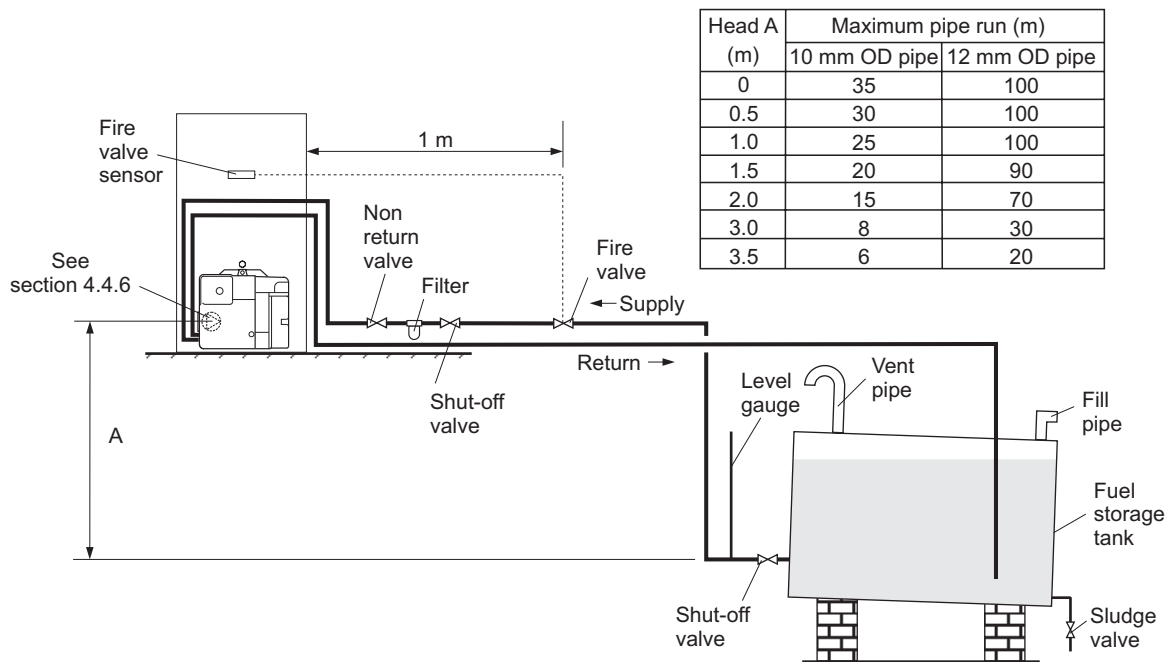

Fig. 3 - Two pipe system
4.4.4 Two pipe system - (See Fig. 3)
- 1 When the storage tank outlet is below the burner, the two pipe system should be used. The pipe runs should be as shown in Fig. 3. The return pipe should be at the same level in the tank as the supply pipe, both being 75 to 100 mm above the base of the tank. The pipe ends should be a sufficient distance apart so as to prevent any sediment disturbed by the return entering the supply pipe.
- 4 To be used with a two-pipe system, the burner **must** be fitted with an additional flexible fuel hose (a flexible fuel hose (600 mm) and $\frac{3}{8}$ " to $\frac{1}{4}$ " BSP male adaptor are available to purchase from Grant Engineering (UK) Limited), Part No. RBS104. See Section 4.4.6.